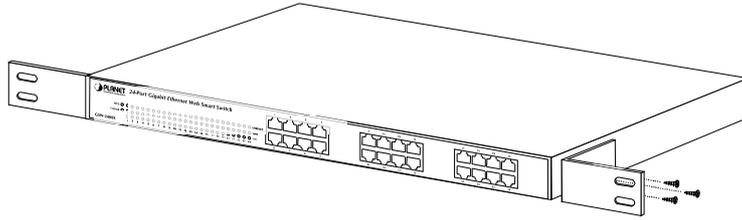

Figure 2-4 Attaching the brackets to the GSW-2400S
Step2: Attach a rack-mount bracket to each side of the switch with supplied screws attached to the package. Figure 2-4 shows how to attach brackets to one side of the switch.